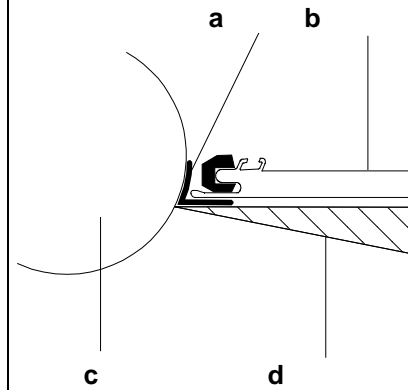

fig 2
7. Flatten the apex by standing on it (in the boat) and pulling the lifelines to prevent the fabric being pinched [fig. 2].